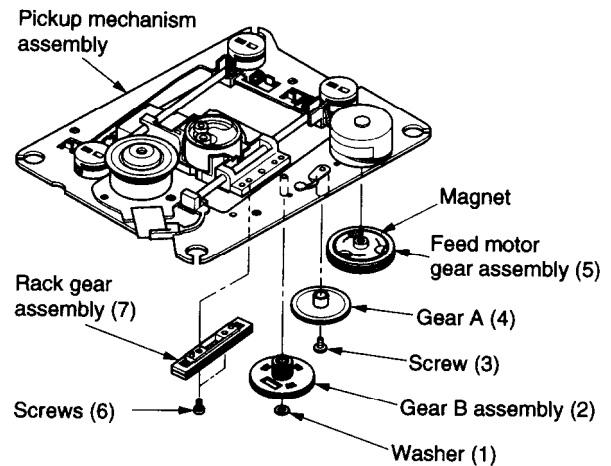

Fig. 13
1. Remove the pickup mechanism assembly. (Refer to item 1-3-3.)
2. Remove the polyslider washer (1), and remove the gear B assembly (2). (Refer to Fig. 13.)
3. Remove one screw (3), and remove the gear A (4).